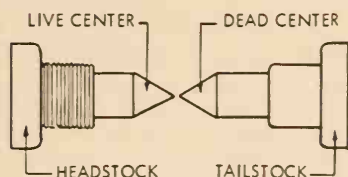

Fig. 9-13. Checking alignment of lathe centers, looking from above.
3. Check the alignment of the lathe centers, Fig. 9-13. The live center should run true. Carefully bring the dead center to within 1/16 in. of the live center. If the points of the two